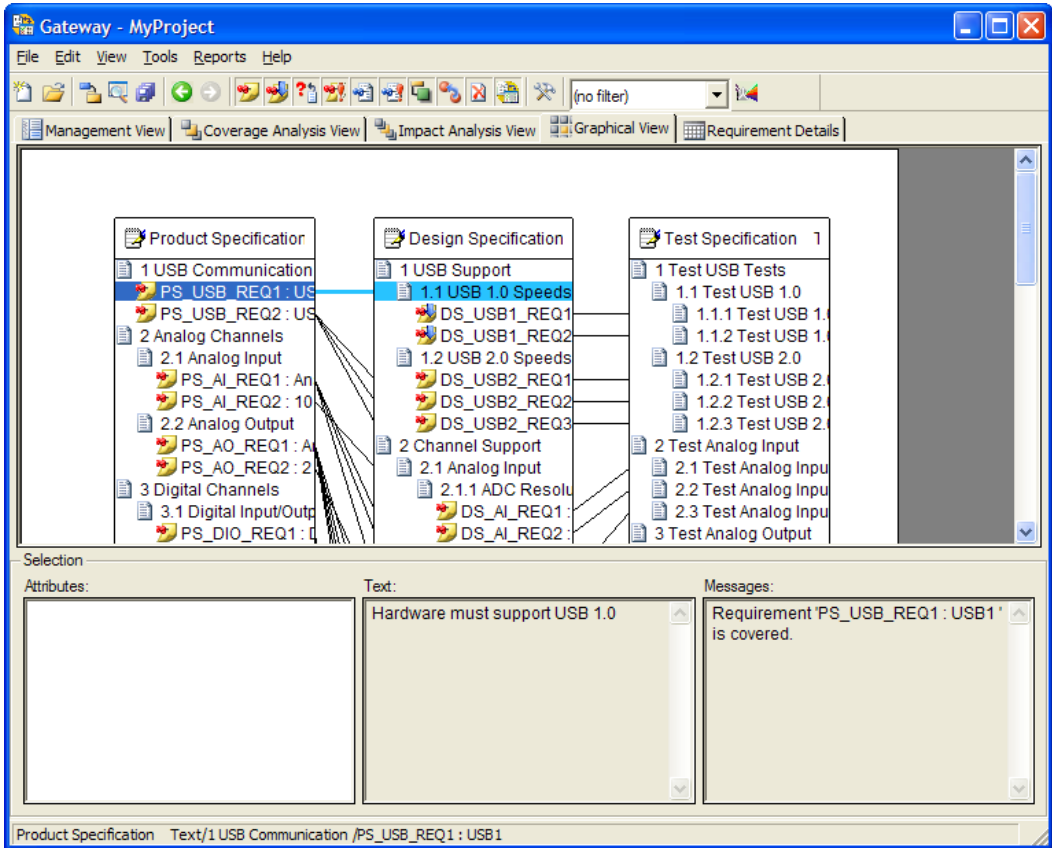

Figure 4-14. PS_USB_REQ1 Selected in Graphical View
2. Select the **PS_USB_REQ1** requirement in the Product Specification document. The Graphical View highlights the PS_USB_REQ1 requirement, the covering 1.1 USB 1.0 Speeds section, and the line between the elements, as shown in Figure 4-14.